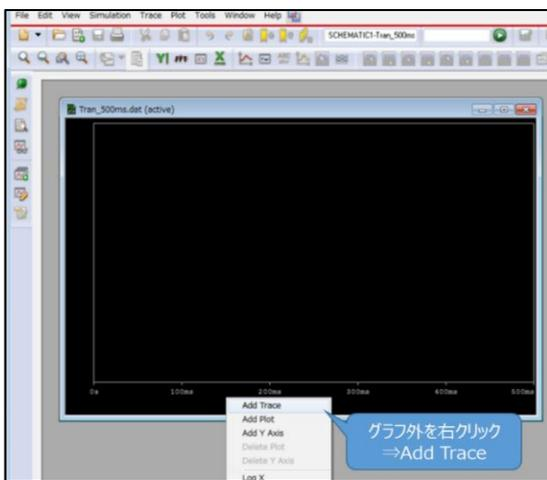

Fig. 5.5 Graph window
1. Right-click outside the graph area and select **Add Trace** as shown in Fig. 5.5.